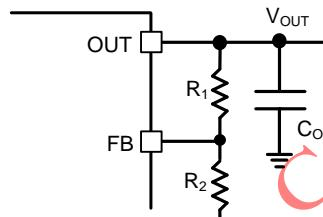

Fig.7 V_{OUT} Programming
The SYV939C provides a function for output current limit by sensing the voltage drop between the OUT pin and the ISEN pin (as shown in fig.7). Once the differential voltage on R_{SENSE} exceeds the voltage threshold, the internal current control loop will regulate the output current by decreasing duty cycle until UVP or OTP is triggered. Noticing that the effects of RPIN and RWIRE cannot be ignored, the actual limit current ILIMIT can be calculated as given in Equation (2):